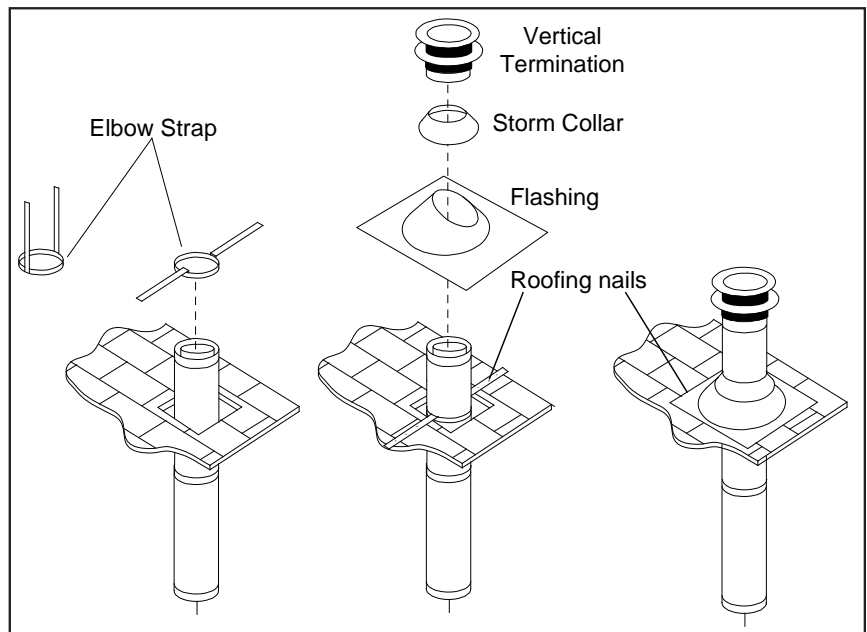

Figure 48. Vertical Vent Termination
Step 3. To install the Round Support Box/Wall Thimble in a flat ceiling, cut a 10 inch (25.4 cm) square hole in the ceiling, centered in the hole drilled in Step 2. Frame the hole as shown in Figure 48.
- STEP 6.** Once the pipe sections have been joined, and run up through the hole in the roof, slip an elbow strap over the exposed sections, bend the support straps outwards, and push the elbow strap down to the roof level, as shown in Figure 48. Tighten the clamp around the pipe section. Use a level to make sure the pipe is truly vertical. With roofing nails, secure the support straps to the roof. Seal the nails holes heads with non-hardening mastic. Trim the excess length of the support straps that extend out beyond the edge of the flashing.